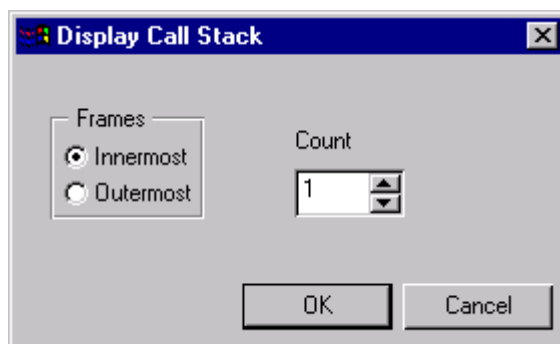

Figure 8-3. Displaying the Call Stack
1. From the **Display** menu choose **Call Stack**. The dialog box in Figure 8-3 appears